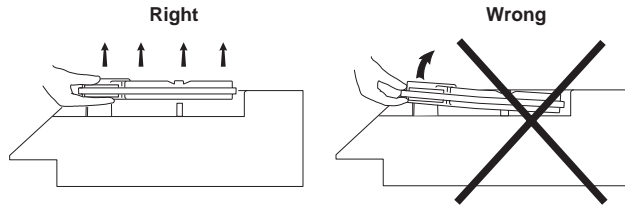

Figure 9-1: Removing the Carrier
8. Remove the carrier by placing your hands under it, palms up, and firmly lifting straight up. Apply sufficient upward force to free tape guides from posts. See Figure 9-1.
4. Open the tape load lever and carefully remove carrier (See **Figure 9-1**).